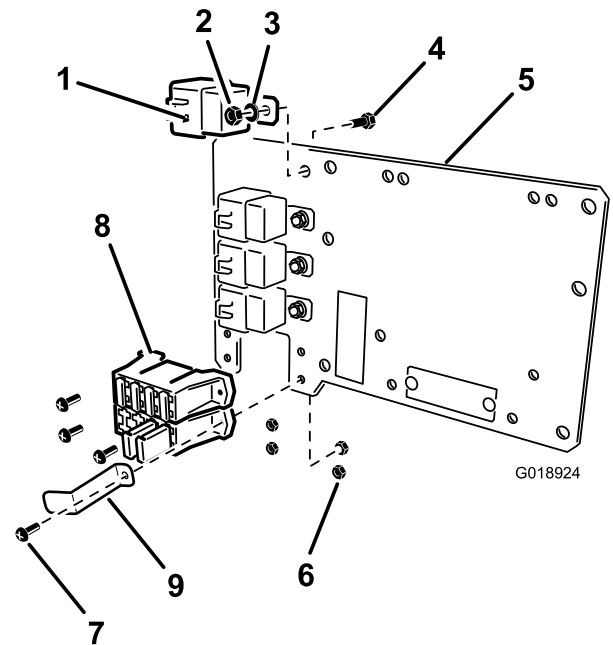

Figure 12
1. Secure 4 relays to the front of the mount plate with 4 bolts (1/4 x 5/8 inch), 4 lock washers (1/4 inch), and 4 nuts (1/4 inch) as shown in Figure 12.
2. Secure the fuse block ends of the wiring harness and the fuse retainer to the mounting plate with 4 screws (#10) and 4 nuts (#10) as shown in Figure 12.